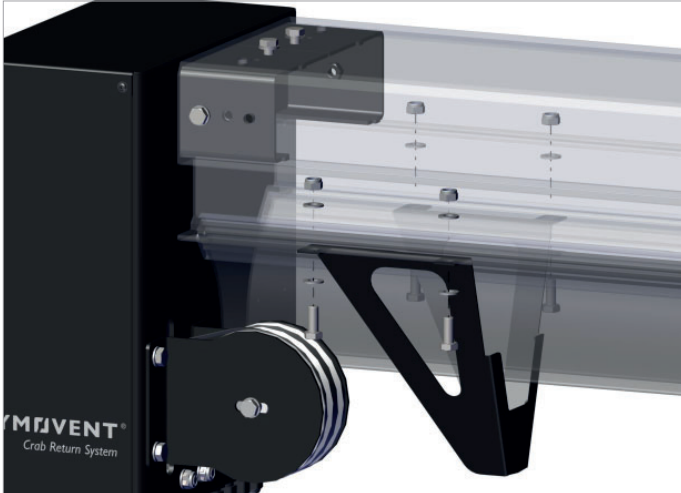

Fig. 6.3.7 Mounting the stop bracket
- Mount the stop bracket to the rail using self-tapping screws $\frac{1}{4} \times 1$ in. (6.3 x 25 mm). Refer to fig. 6.3.7.